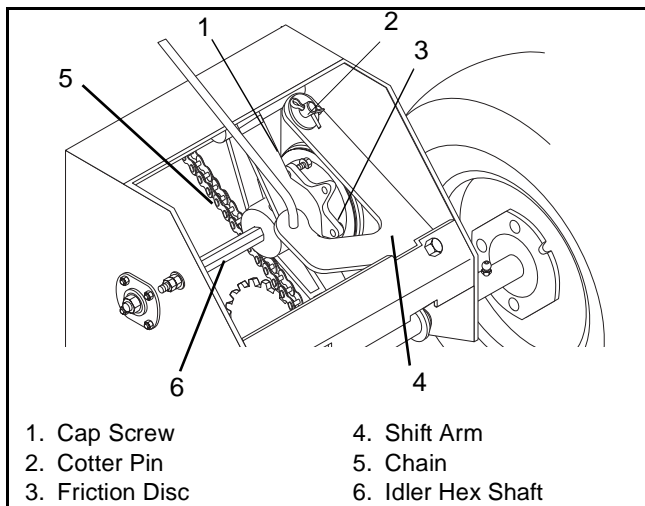

Figure 25
3. Place speed selector in first (1) position, depress traction clutch lever to hold friction wheel and hub in position and remove cap screws. Release traction clutch lever, shift to third (3) position, and remove friction disk (Figure 25).